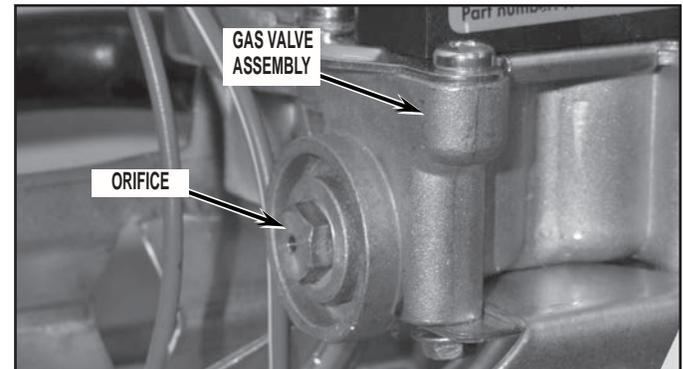

FIGURE 21
24. Remove the burner orifice from the gas valve assembly and replace it with the proper orifice furnished in this kit. Orifice number is stamped on one edge of the hex head of orifice. Securely tighten. See *Figure 21*.